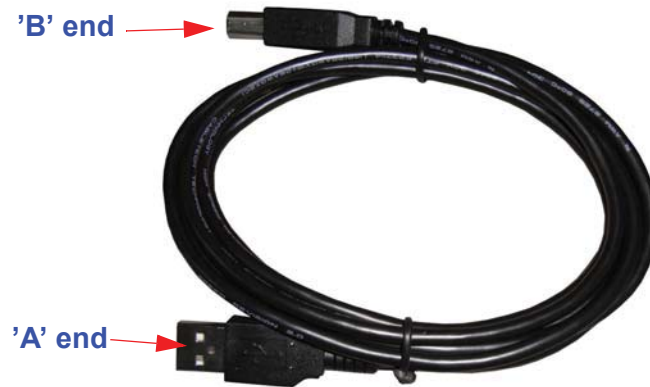

Figure 5-2 “A to B” USB Cable
2. Connect the 'B end' of a standard “A to B” USB cable to the instrument (only 'B end' will fit). See Figure 5-2.